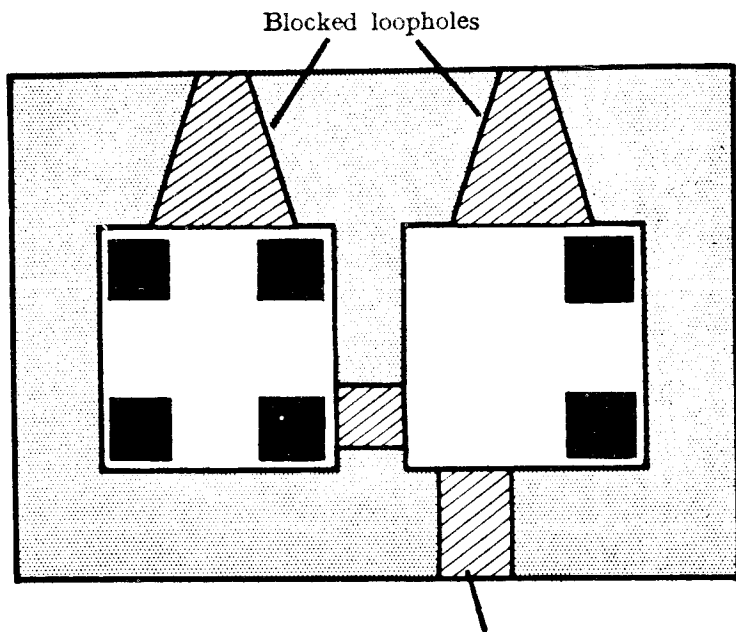

FIG 16
(see Fig 16)
1. Estimation of concussion charges. (See Fig 16)